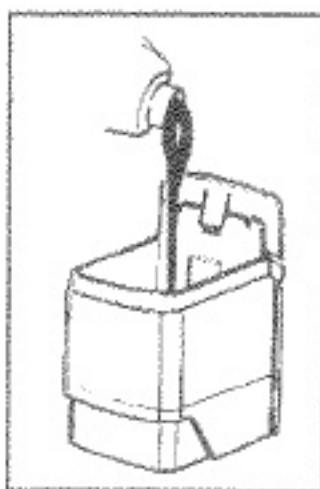

FIGURE 6
5. Fill reservoir with liquid soap (Figure 6).